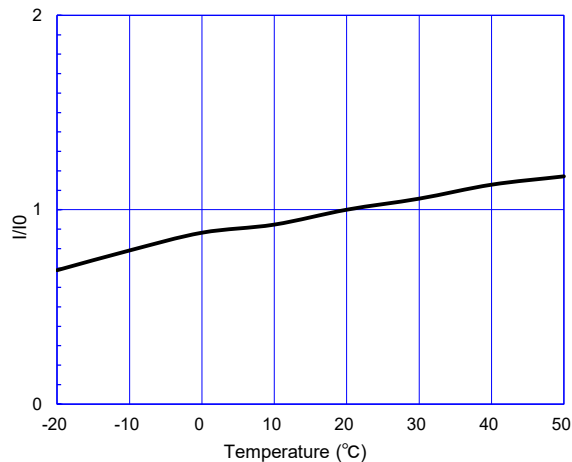

Fig. 7 - Temperature dependency (I₀=sensor output current at 20°C)
Figure 7 shows the sensitivity change with temperature measured using the recommended basic measuring circuit. The Y-axis shows the ration of output current in 100ppm of NO at various temperatures (I) to the output current in 100ppm of NO at 20°C. The sensitivity gradually decreases as the temperature decreases, and the sensitivity slightly increases as the temperature increases. Therefore, the temperature dependency of nitric oxide sensitivity of FECS41-250 can be compensated by a NTC thermistor.